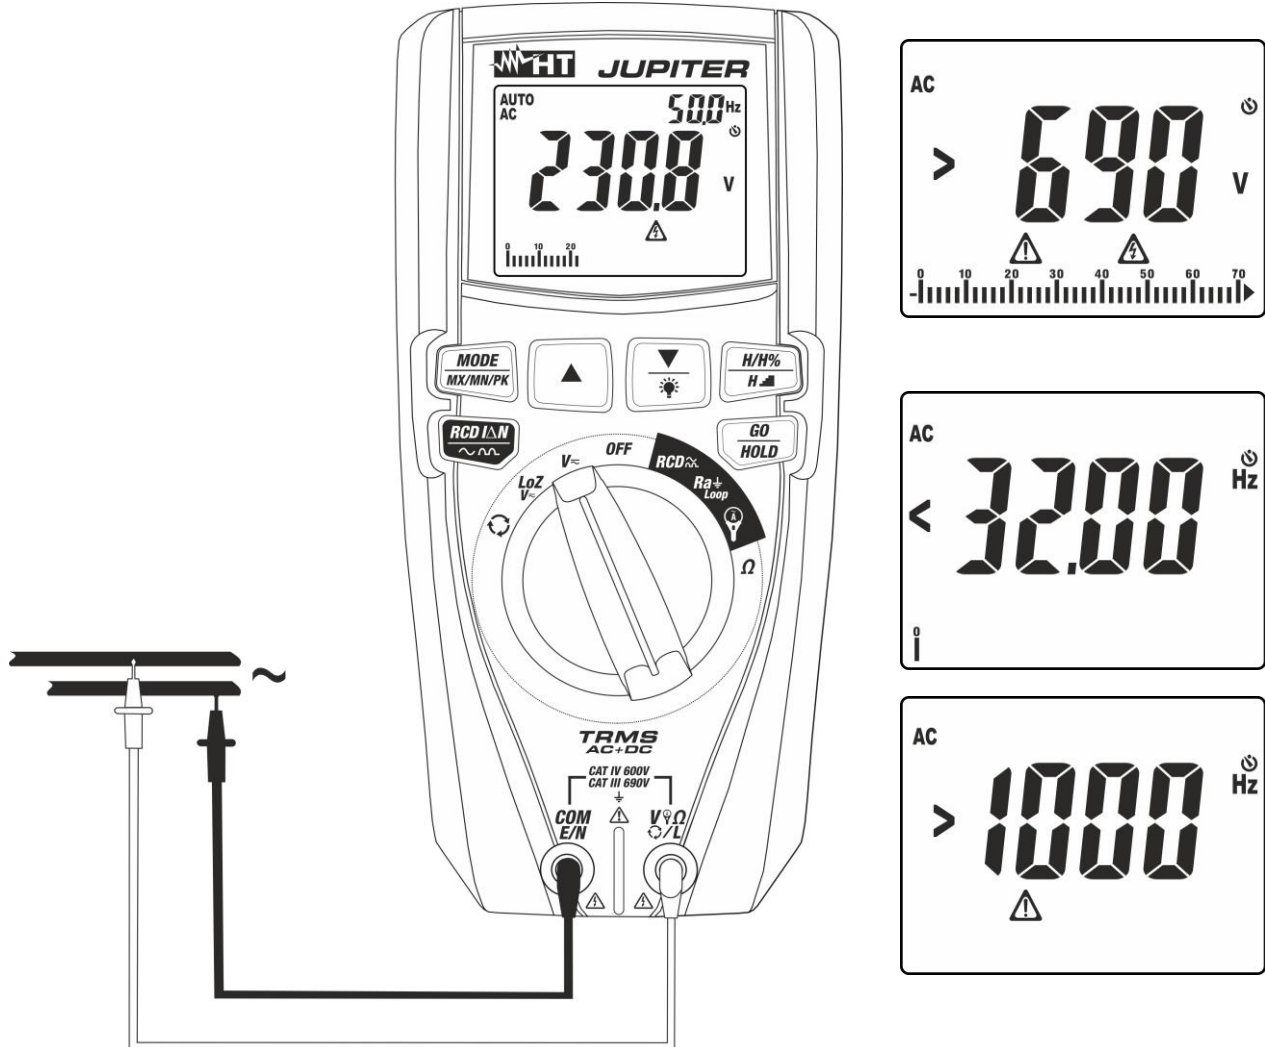

Fig. 9: Use of the instrument for AC voltage measurement
4. Position the red lead and the black lead respectively in the spots of the circuit to be measured (see Fig. 9). The display shows the value of voltage. On the top of the display on the right side, the value of voltage frequency is displayed. Press key **MODE/MX/MN/PK** to display the value of frequency with a higher resolution.
5. If the display shows the message “>690V” (see Fig. 9), the maximum measurable value has been reached.
6. If the display shows the messages “<32Hz” or “>1000Hz” (see Fig. 9), the value of frequency is out of the measuring range 32Hz ÷ 1000Hz.